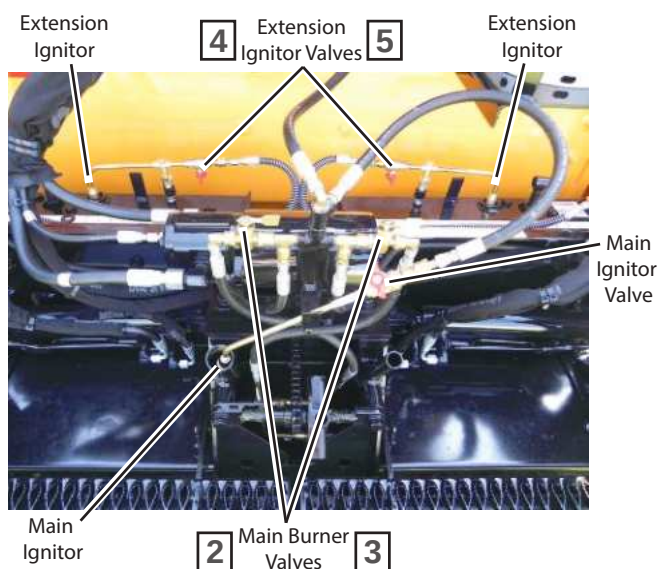

Figure 4-34. Screenshot Burner Valves
3. Remove the main ignitor wand from its cradle and turn its valve counterclockwise to the OPEN position, then light the ignitor end using a torch striker. (Figure 4-34)
4. Holding the lit ignitor wand in one hand beside the burner you are going to light, turn on the main burner valve and light the that burner just below the valve, then repeat with the other side. (Figure 4-34)